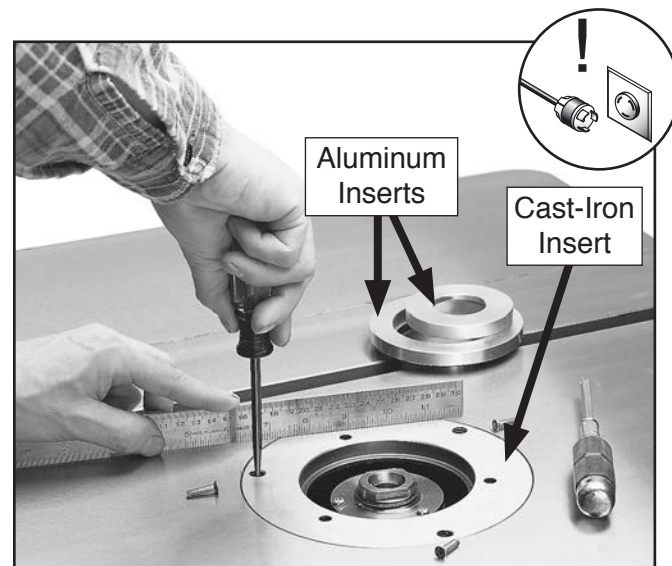

Figure 18. Leveling table insert.
2. Using a straightedge and a flathead screwdriver, turn the barrel screws clockwise or counterclockwise to level the cast iron insert with the table, as shown in Figure 18.